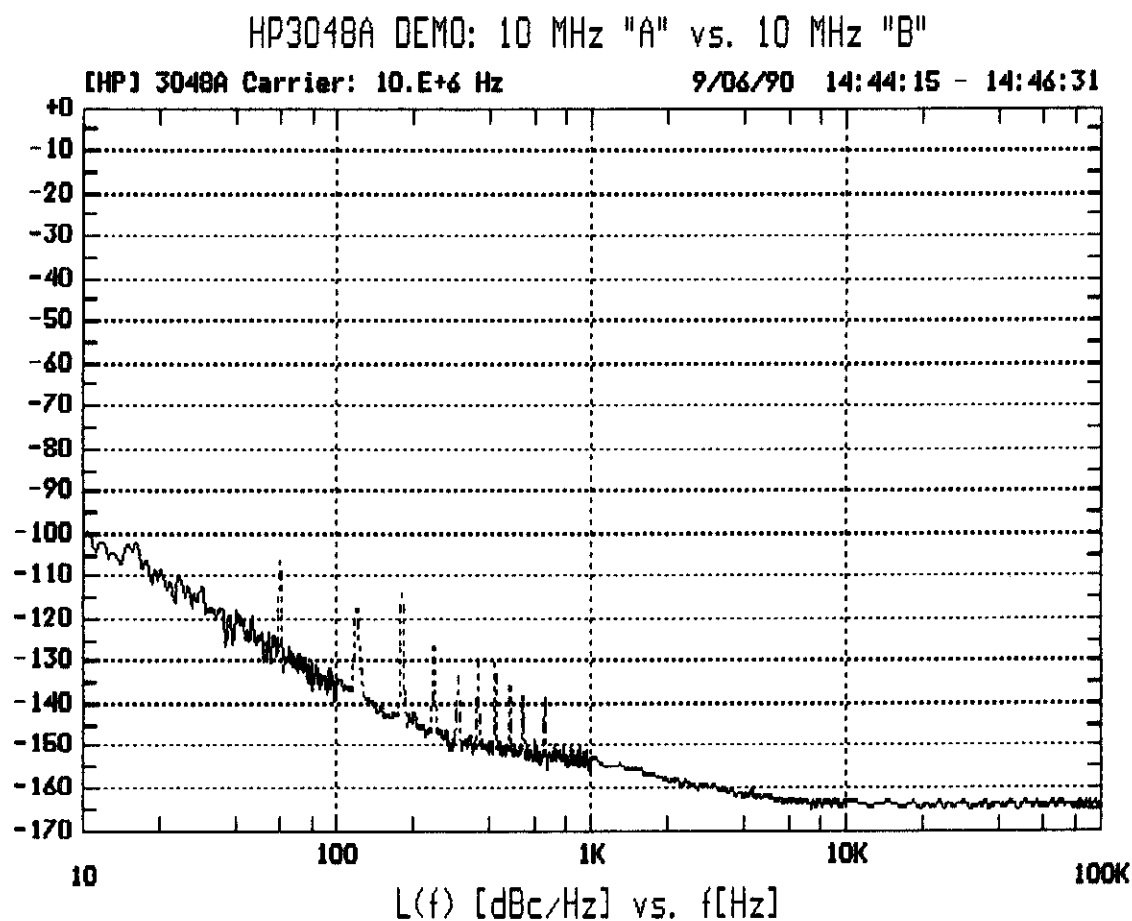

Figure 2. Typical Noise Plot for the System Quick Check
11. Press the **F1** to run the test. The measurement should proceed without error messages, and the measured noise results should be within 10 dB of that in Figure 2. (The plot in Figure 2 is typical for a System without an RF spectrum analyzer. The measurement takes about 5 minutes depending on the controller and the presence of the RF spectrum analyzer.)